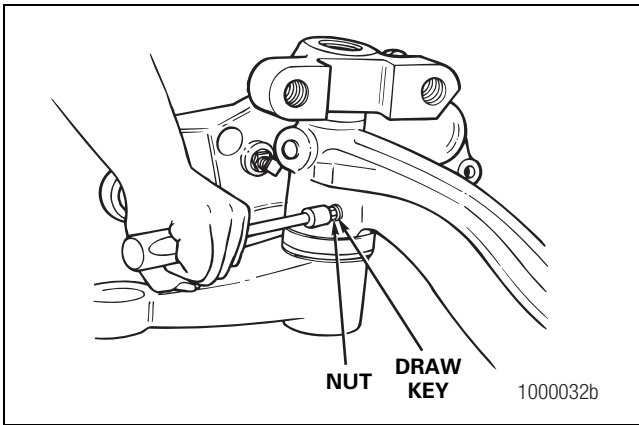

**Figure 15**
1. Remove the top and bottom king pin caps. Figure 15.